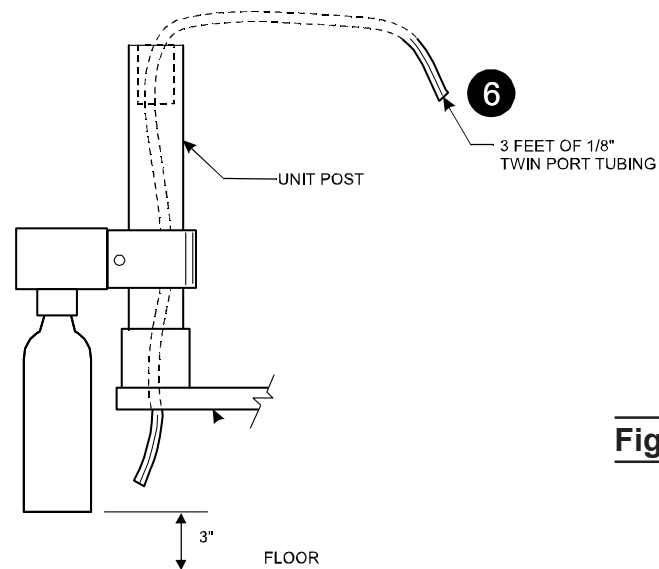

Figure 2
- ⑥ Route 3 feet of the 1/8" twin port tubing through the unit post as shown in Figure 2.